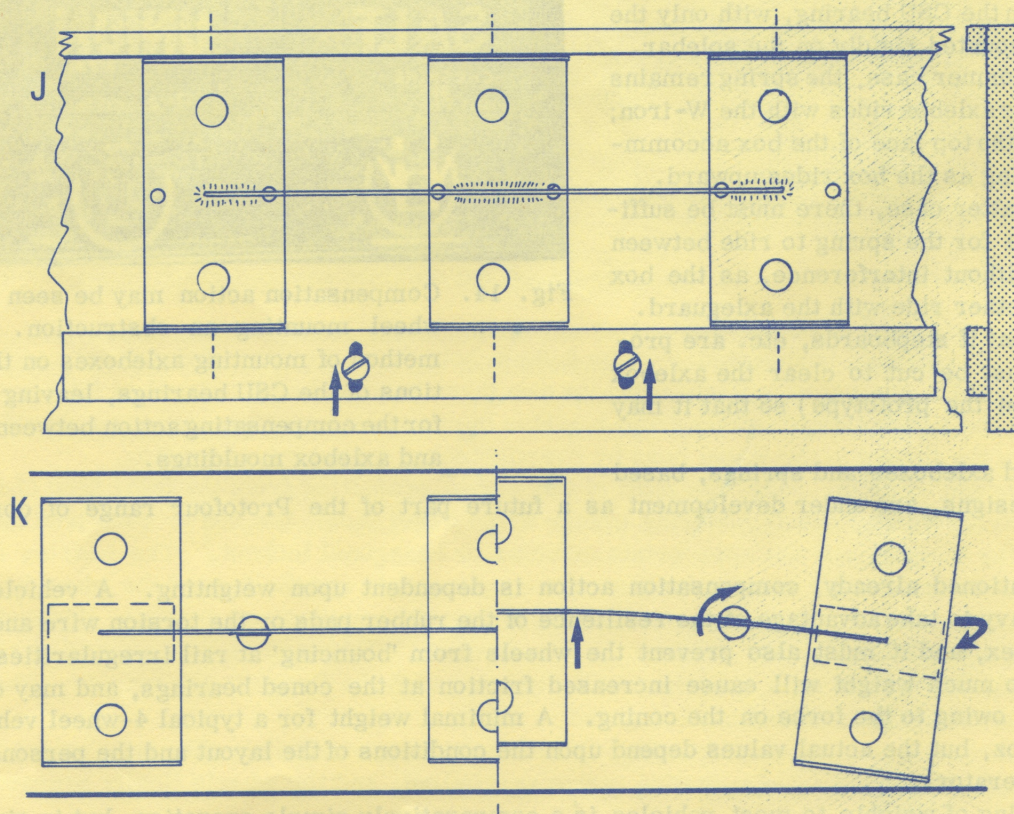

Fig. 12. (top) Jig for assembly of CSUs on torsion bar wire.
Three CSUs are mounted on a 0.5mm steel wire; the end units are provided with felt packing strips, and the centre unit is left free to ride on the wire. The units are fastened to the vehicle by means of 10 BA screws situated near the end CSUs, the wire being soldered into the screw slots. The screws are able to turn; this enables the centre CSU to displace sideways. In doing so, it traverses the end CSUs into the direction of the curve, the felt allowing easy traverse. (see Figs. 12 & 13-4).
- 4 - Torsion bar for 6-wheeled vehicle, as in Fig. 12.